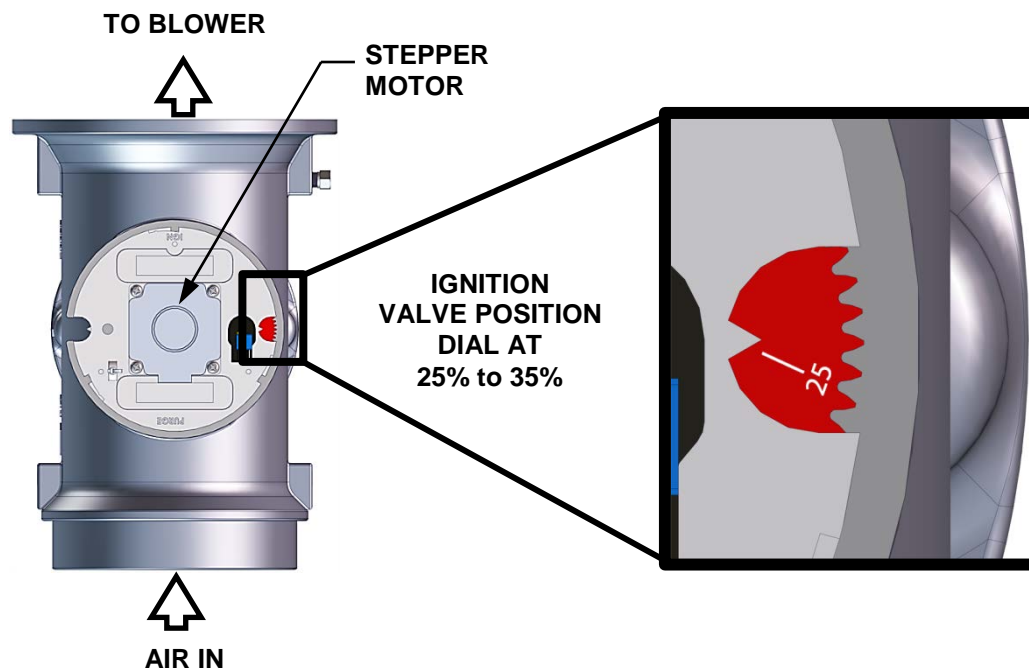

Figure 3-6: Air/Fuel Valve In Ignition Position
- The Air/Fuel Valve rotates to the low-fire (Ignition Position) position and closes the ignition switch. The Dial on the Air/Fuel Valve (Figure 3-6) will read between **25** and **35** to indicate that the valve is in the low fire position.